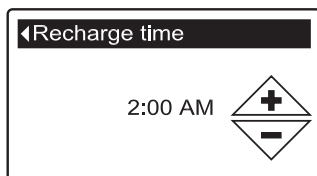

FIG. 36
5. Press the SELECT (O) button to display the Recharge time screen (See Figure 36).